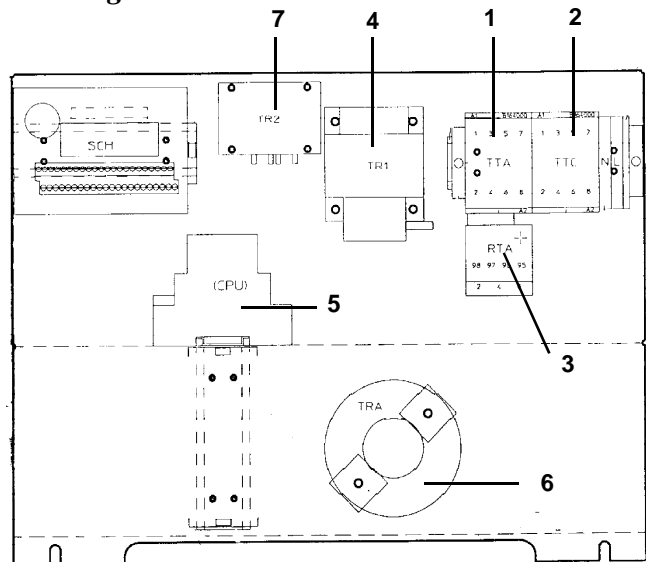

Figure 7
E) Electrical Control Panel – (Refer to figure 7)